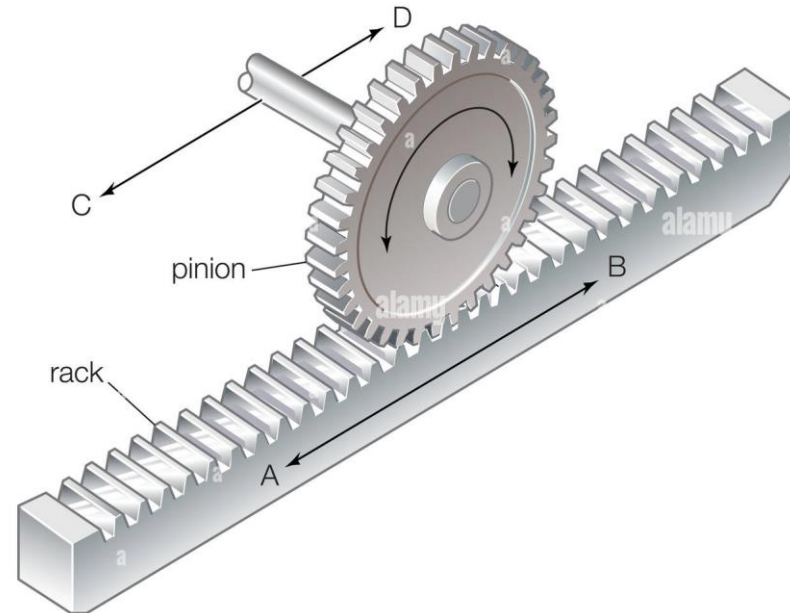

Figure 8-5. A Rack-and-Pinion Mechanism. Source: Alamy
- A rack-and-pinion mechanism is a type of linear motion system that converts rotational motion into linear motion or vice versa as shown in Figure 8-5: